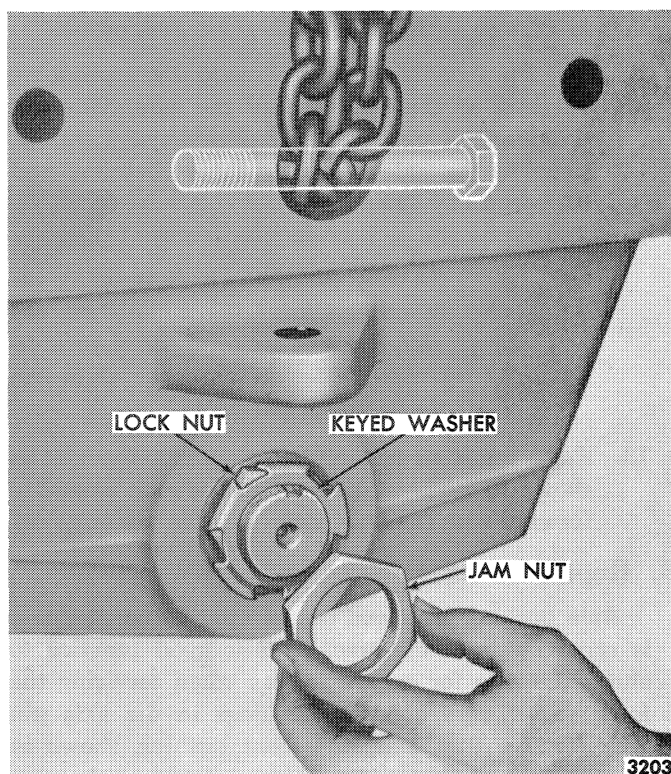

Figure 28—Removing Axle Pin Jam Nut and Lock Nut
4. Pass a chain loop through the center hole of the axle support member and secure it with a bolt as shown in Figure 28. Attach the chain to an overhead hoist or lift and take up the slack.
6. Straighten the tabs on the keyed washer located behind the jam nut on the front of the axle pin, Figure 28.